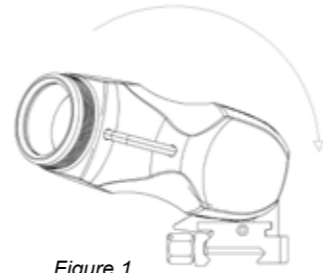
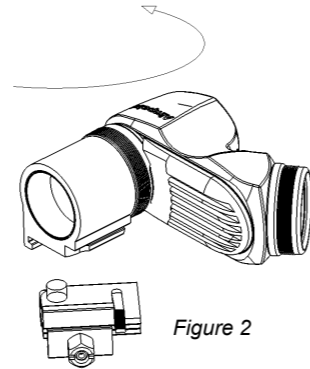
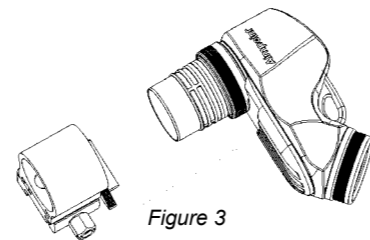

Figure 1
Figure 2
Figure 3
Maintainability	Two o-rings (7) shall be kept lubricated to enable easy attachment/detachment of the CEU from the mounting Ring (Fig.3) and easy rotation of the CEU within the ring (Fig.1).
Once the CEU is mounted on the weapon, the CEU can rotate around its axis and is therefore suitable for both right-handed and left-handed corners, as well for aiming over and under obstacles, vehicles or walls (see figure 1).
To remove the CEU attachment from the weapon, press down on the Locking Bar (1) twist the CEU counter-clockwise, and then lift the unit off of the mount post (see figure 2). If the situation requires immediate removal of the CEU, take a firm grip around the body of the CEU and pull it straight backwards out of the mounting ring. (see figure 3).